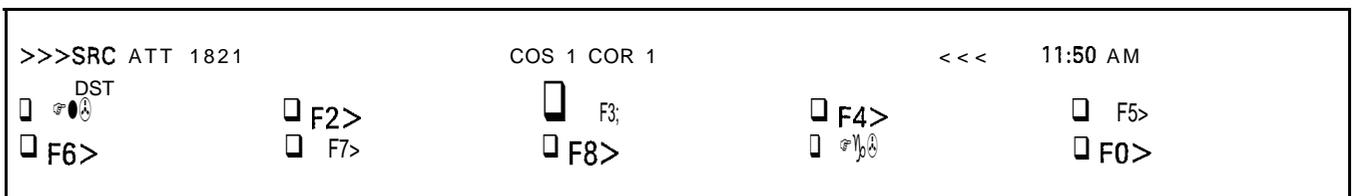
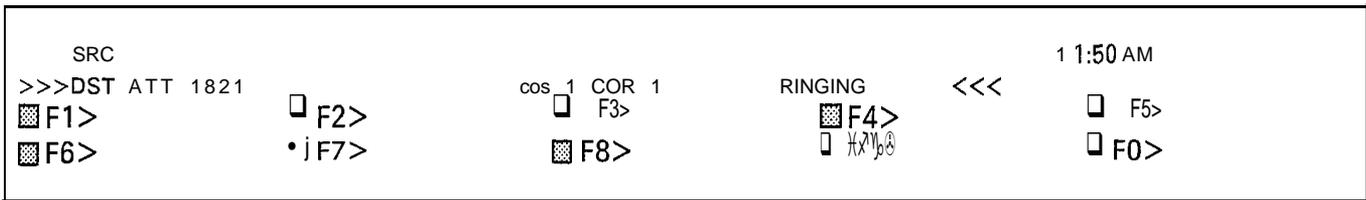

Figure 3-12 Answering a Call from Another Attendant
Figure 3-13 Calling Another Console
3.17 When a console calls or answers a call from another console, the LCD displays ATT followed by the console’s access code. Refer to Figure 3-12 and Figure 3-13.